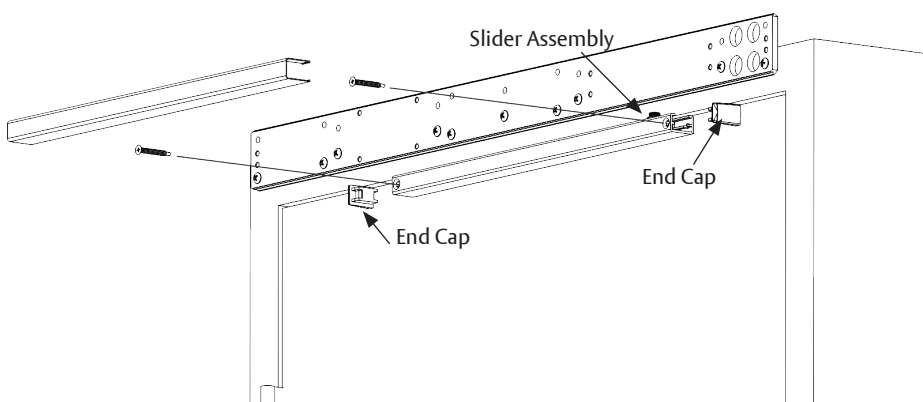

Figure 6
- Slider assembly and end caps must be in track before screws can attach track to door. (Figure 6)